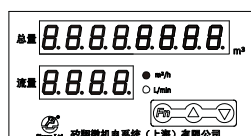

Figure 6-4 User Interface
(1) The user interface (Figure 6-4):